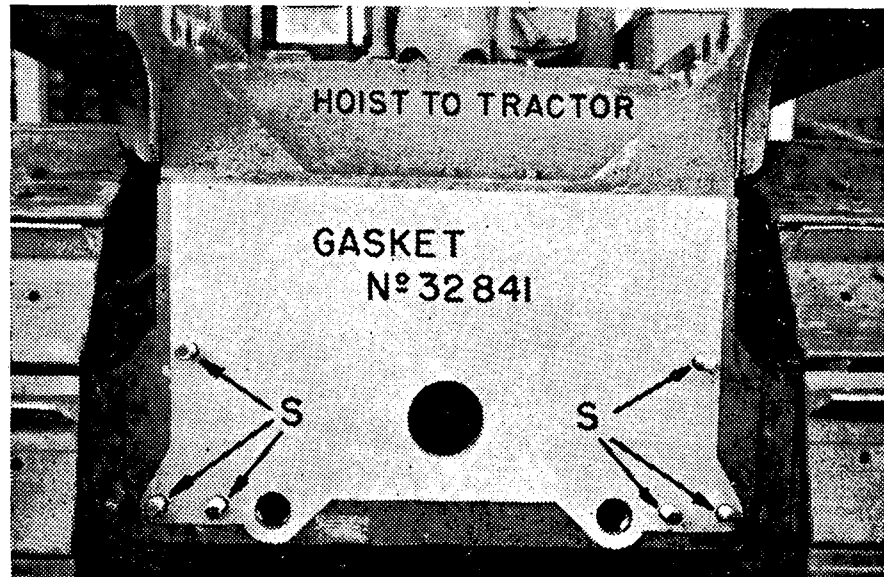
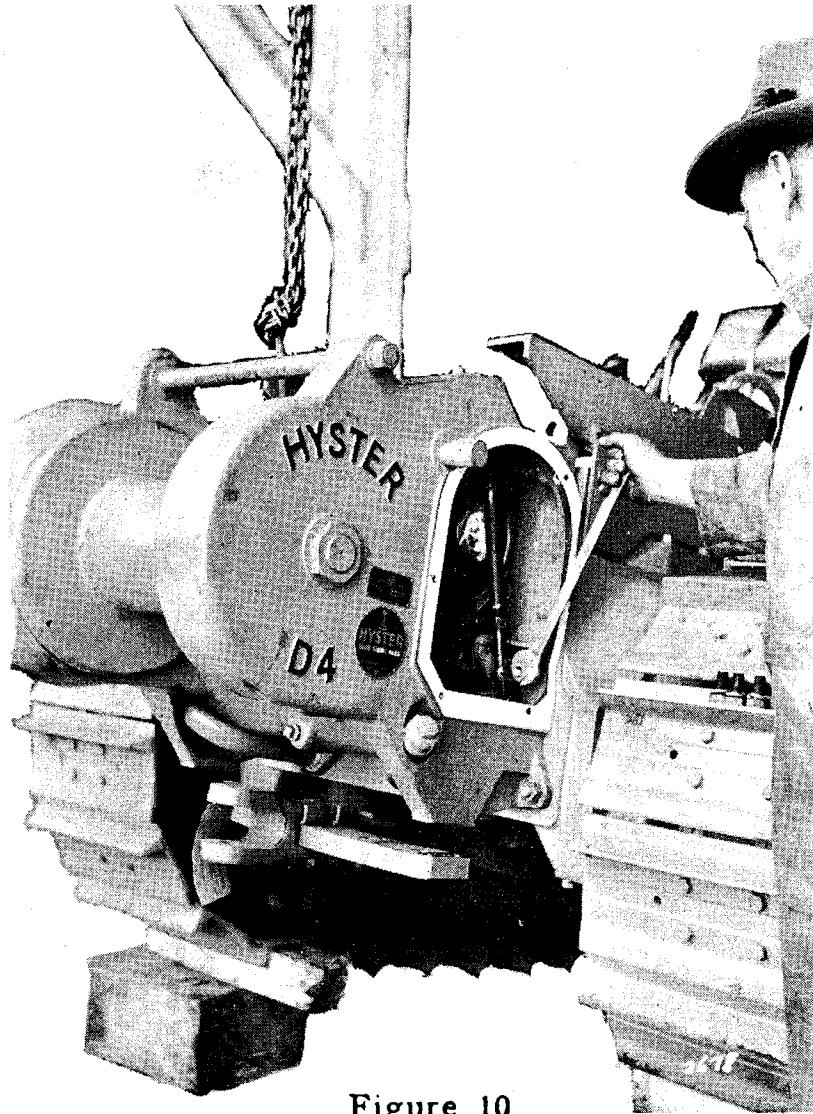

Figure 7B
Figure 10
5. Place gasket No. 32841 in position on rear face of tractor transmission. See figure 7B.
9. When the winch is in place, place nuts and lockwashers on the six studs "S" in Figure 7B. Tighten all nuts (Figure 10, page 17) so that winch is securely fastened to tractor.
5. Remove brake compartment cover and take nut and lockwasher from stud holding winch to tractor. (See Figure 10, page 17.)
8. Take remaining nuts and lockwashers from studs holding winch to tractor. (See "S," Figure 7B, page 15.)